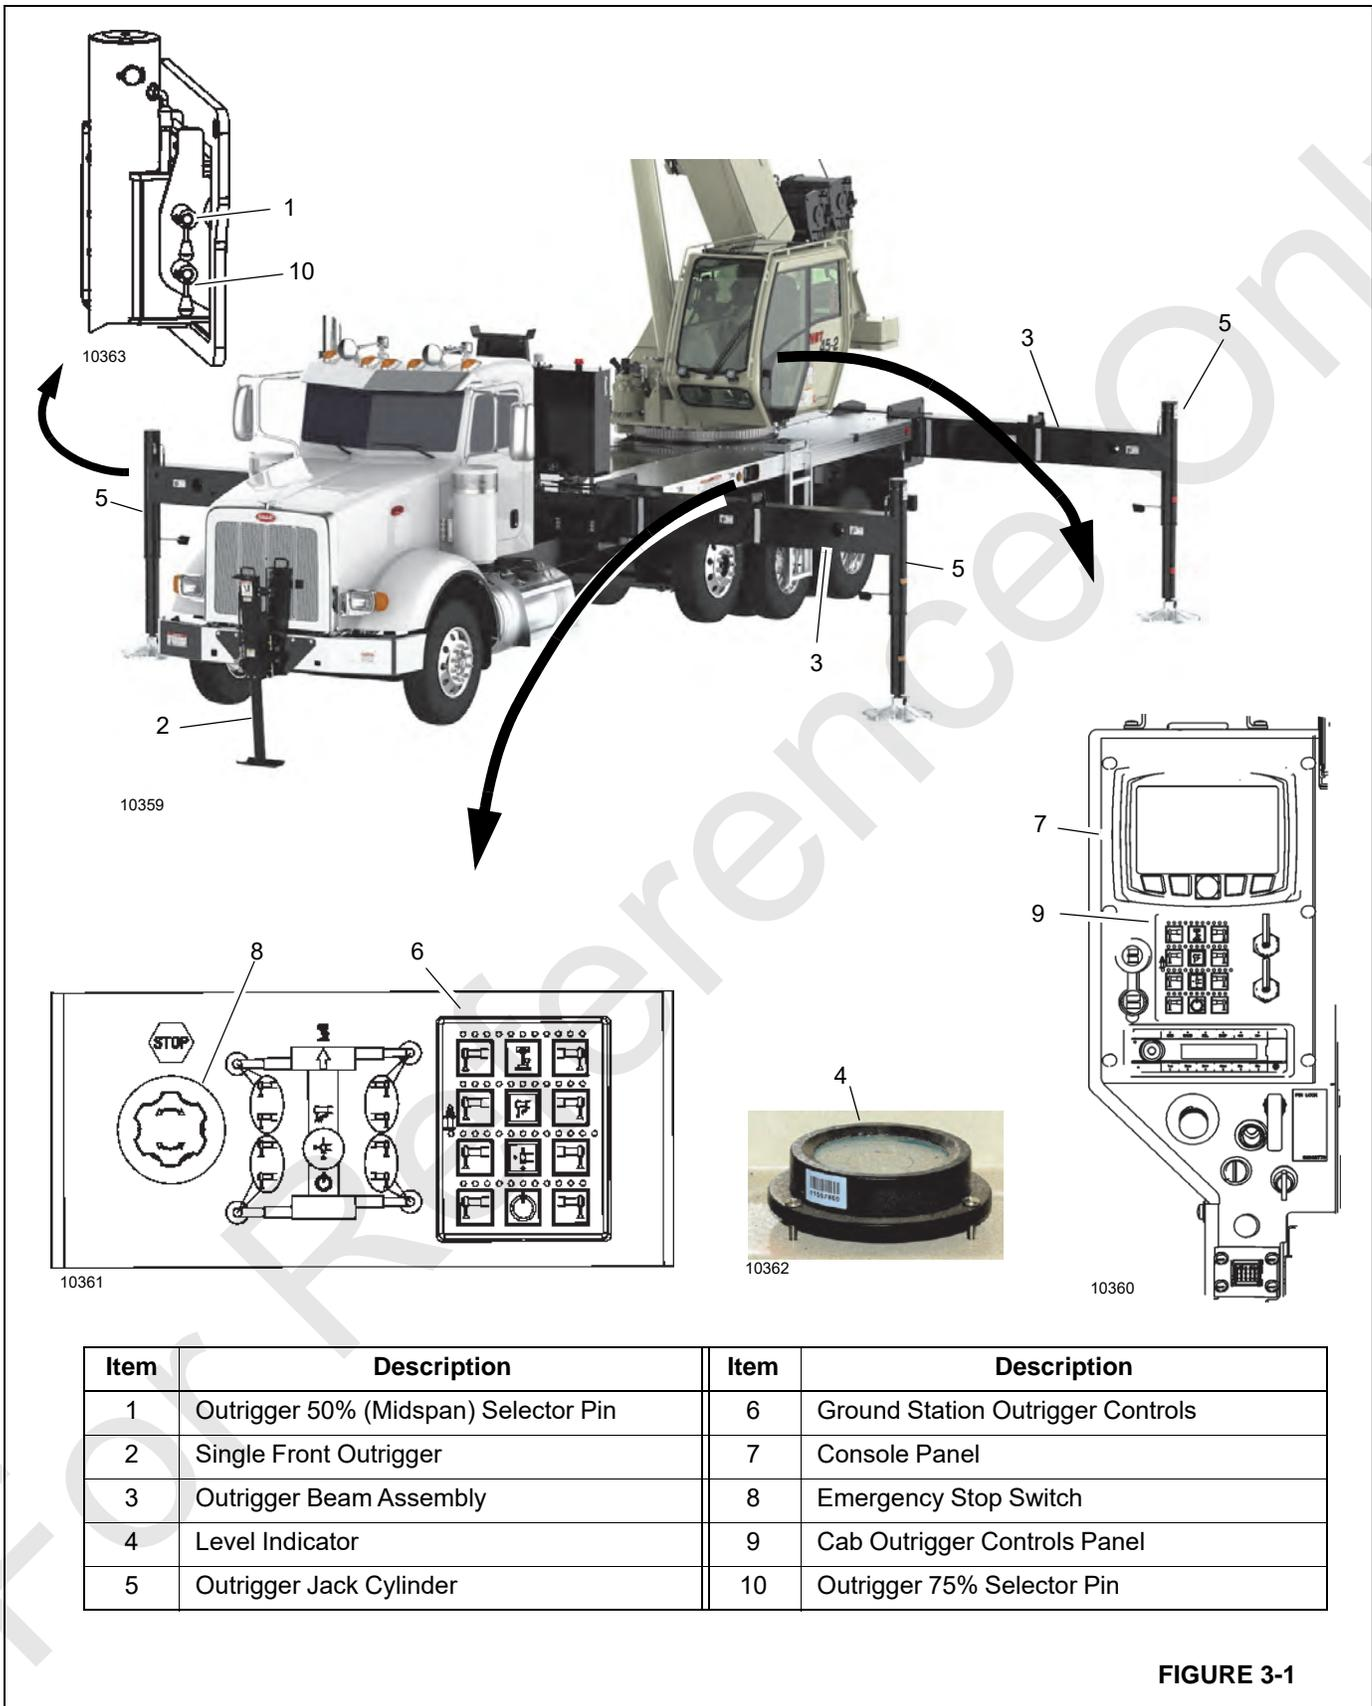
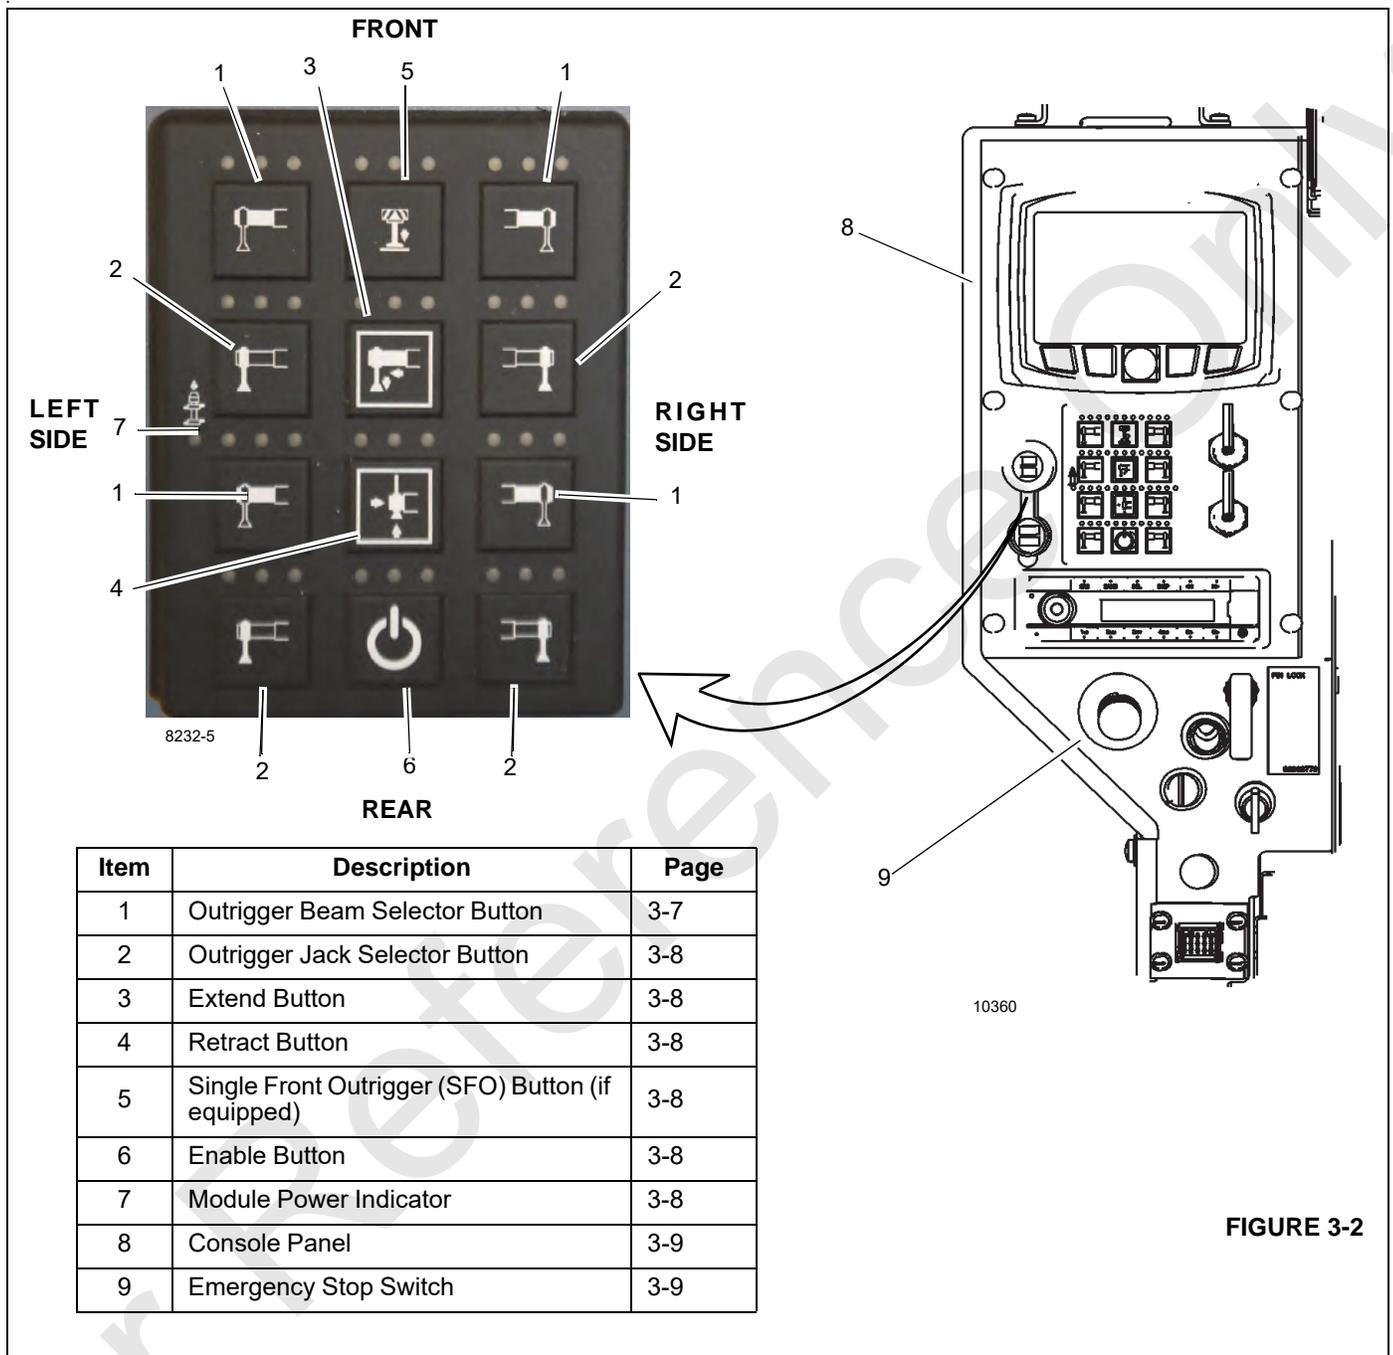

FIGURE 3-1
FIGURE 3-2
- The lower ground level outrigger panel Emergency Stop (ESTOP) switches (9, Figure 3-1) must be released.
- The Crane Cab ESTOP switch (9, Figure 3-2) must be released.
The outriggers can be operated from several locations, including the keypad controller (Figure 3-2) located on the (6 and 9, Figure 3-1) crane cab console and two ground station control keypads located on the left and right sides of the carrier frame. The cab outrigger controller contains the controls for extending and retracting the outrigger beams, for raising and lowering the outrigger stabilizer (jack) cylinders
The outrigger midspan selector pin (1, Figure 3-1) can be used to extend the outrigger to 50% of its length. The outrigger 75% selector pin (10) is standard on NTC machines and can be used to extend the outrigger to 75% of its length. For more information about deploying the outriggers, see "Outrigger Setup" on page 4-1.
The cab outrigger control panel (Figure 3-2) is located on the superstructure cab front console panel and is used to control
The ground station control panels are located on the left (driver side) and right (passenger side) sides of the carrier decking (Figure 3-1). Each control station has control switches for extending and retracting the outrigger beams, for raising and lowering the outrigger jack cylinders and for raising and lowering the single front outrigger (SFO), if equipped. Each station contains a level indicator and an emergency stop switch.
There are four outrigger beam and four outrigger jack selector buttons located on each outrigger control panel (Figure 3-1 and Figure 3-2).
The enable button is located on the cab outrigger control panels (Figure 3-2) and is used in conjunction with pre-selection of outrigger selector switches to control the outrigger functions.
The extend button is located on the outrigger control panel (3, Figure 3-2 and Figure 3-3) and is used in conjunction with the enable buttons to control both the outrigger beams or the jacks functions.
The retract button is located on the outrigger control panel (4, Figure 3-2 and Figure 3-3) and is used in conjunction with the enable buttons to control both the outrigger beams or the jacks functions.
LED indicators display the status of the control button being selected (Figure 3-2) on the cab outrigger control panel. A blue LED will illuminate for 5 seconds after a button has been selected.
The module status indicator is located on all outrigger control panels and indicates the outrigger control station (Figure 3-2) is activated when a green LED illuminates. The control station cannot be activated if the crane is performing another function. (For example: operating the boom.)
The outrigger beam selector buttons (1, Figure 3-2 and Figure 3-3) are used to operate the front or rear outrigger
The ground control outrigger beam selector buttons (Figure 3-1 and Figure 3-3) are used to operate the front or rear outrigger beam only on the side of the crane the ground control is located.
Use the outrigger jack selector buttons (2, Figure 3-2 and Figure 3-3) to indicate which jack you desire to operate.
The Single Front Outrigger (SFO) button is located on the outrigger control panel for the cab outrigger controls (Figure 3-2) and ground outrigger controls (Figure 3-1 and Figure 3-3). The SFO button is used to lower and raise the optional single front outrigger (if equipped). To operate the SFO, press the SFO button to activate and then press extend/retract button and the enable button. The SFO automatically retracts if any of the other jacks are adjusted and must be reset if lifting is to be continued. If not equipped with an SFO, the red LED is lit.
There is an emergency stop switch (9, Figure 3-2 and Figure 3-3) located at each outrigger control on each side of the carrier (Figure 3-3) and inside the cab on the front console (Figure 3-2). Pressing an emergency stop switch shuts down the engine. If the emergency switch is pressed and the crane interlocks are engaged and the crane is powered from